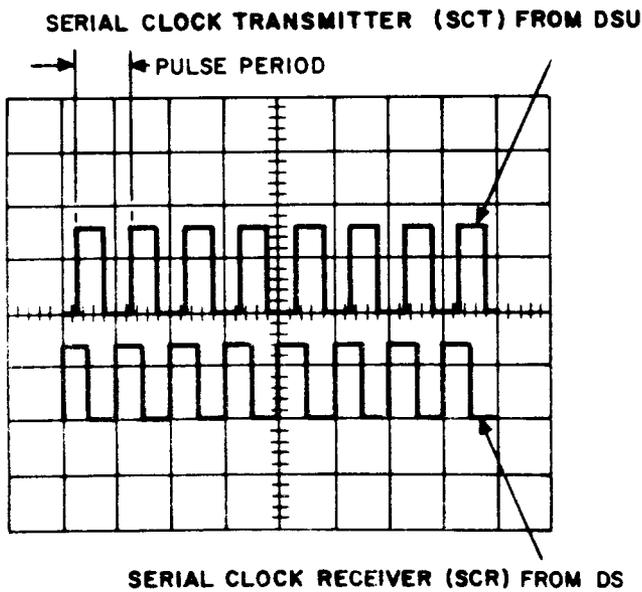

Fig. 8—Timing Phase Test—Oscilloscope Presentation
- (f) Set the oscilloscope power switch to ON and adjust the oscilloscope for a presentation similar to that shown in Fig. 8.